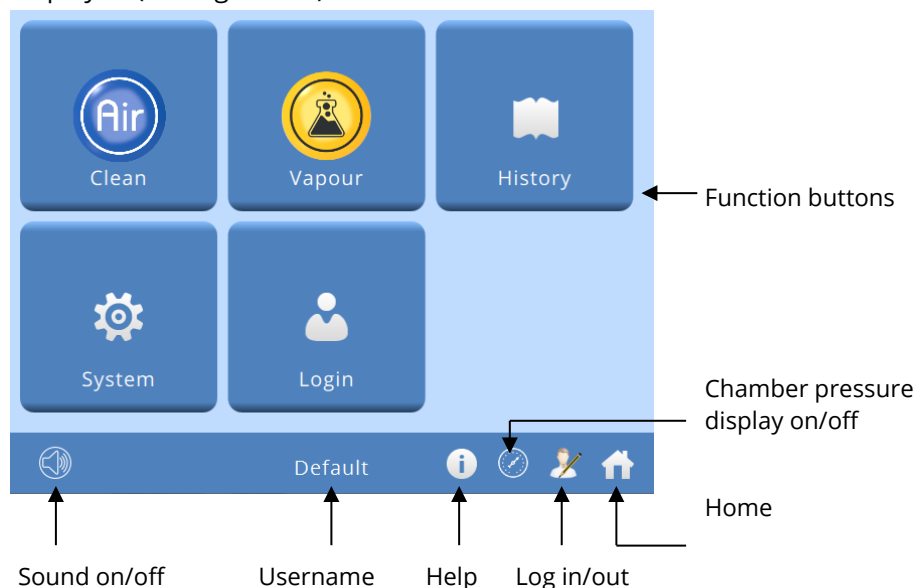

Figure 3-1. Home screen
3. Once the instrument hardware and software has initialised, the *Home* screen is displayed (see Figure 3-1).
3. Tap on the **Clean** or **Vapour** button as appropriate (see Figure 3-1).